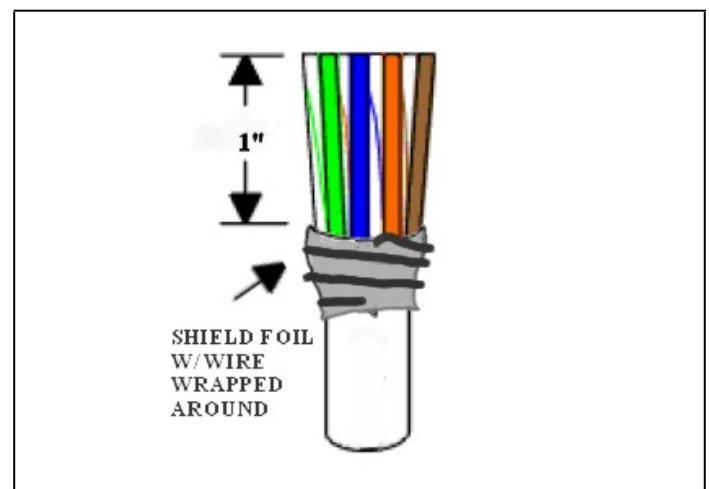

Figure 4-1 - CAT5e Shielded Cable w/ 1" Stripped Jacket
1. Carefully strip the outer sheath insulation back 1". Roll back the foil shield insulation and wrap the drain wire around the foil (Figure 4-1). Do not remove any insulation from the conductors.